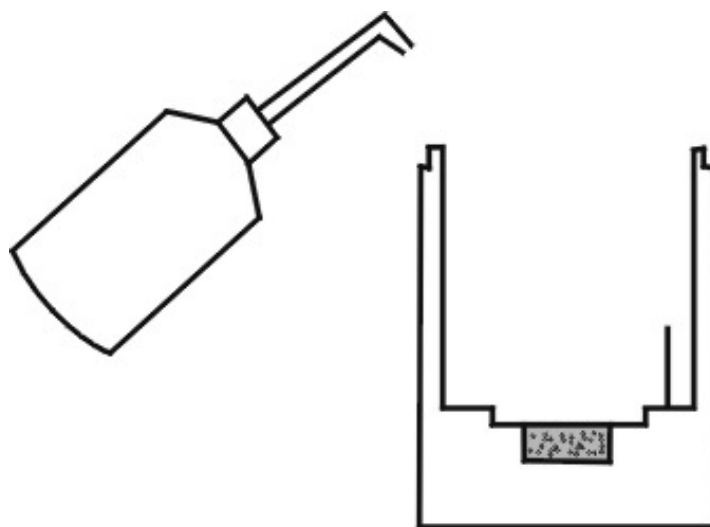

Figure 3.5: Adding Electrolyte to the BDS Sensor
- Floating input—5 to 24 V input across the + and – pins puts the analyzer into the Span mode. Either side may be grounded at the source of the signal. 0 to 1 volt across the terminals allows Span mode to terminate when done. A synchronous signal must open and close external span valve appropriately. See Figure 3-5 Remote Probe Connector. (The –C option internal valves operate automatically.)
5. Ref. to Figure 3.5 for the method of adding electrolyte to the sensor. It is important that as the sensor is being filled with the electrolyte, filling is accomplished without trapping gas bubbles in the lower part of the sensor.